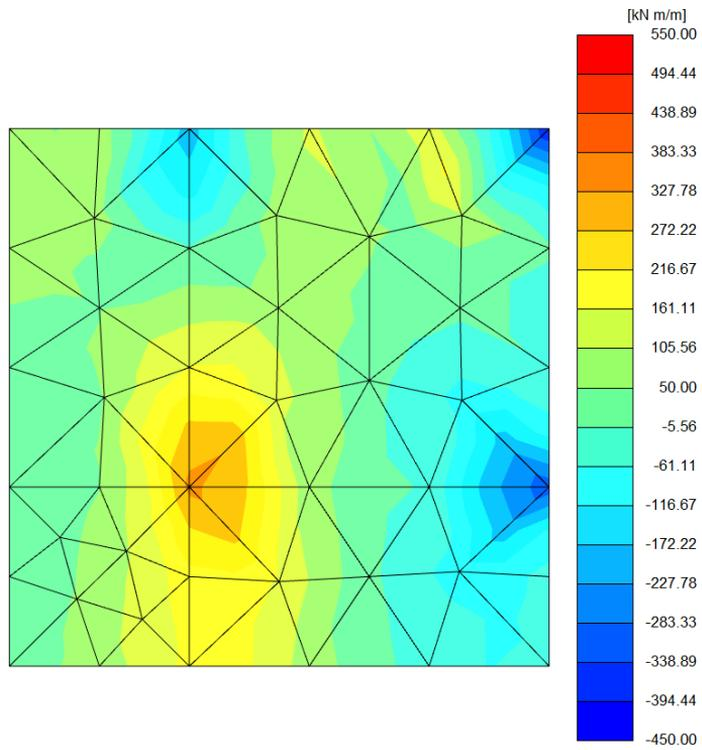

Figure 1.23 Bending moments in the basement floor
- Double-click the basement floor. Select the M_{11} option from the *Forces* menu. The results are shown in Figure 1.23.